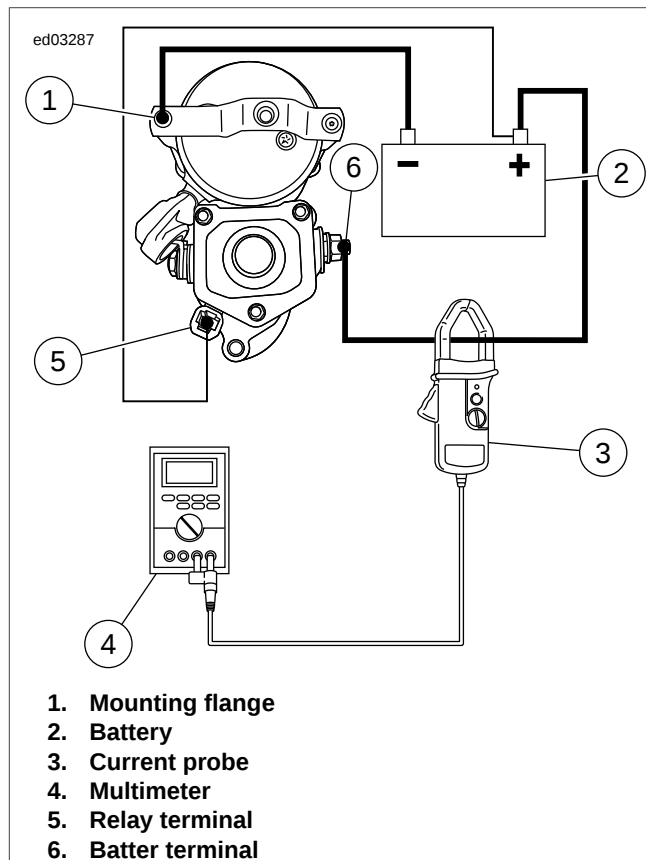

Figure 3-6. Free Running Current Draw Test
- See Figure 3-6. Attach one heavy jumper cable (6 gauge minimum).